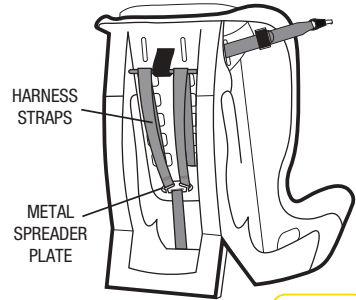

Figure 1.1
- Loosen harness to allow spreader plate to rise from under the restraint. Turn the restraint so that the back of the restraint is facing you (refer Figure 1.1).